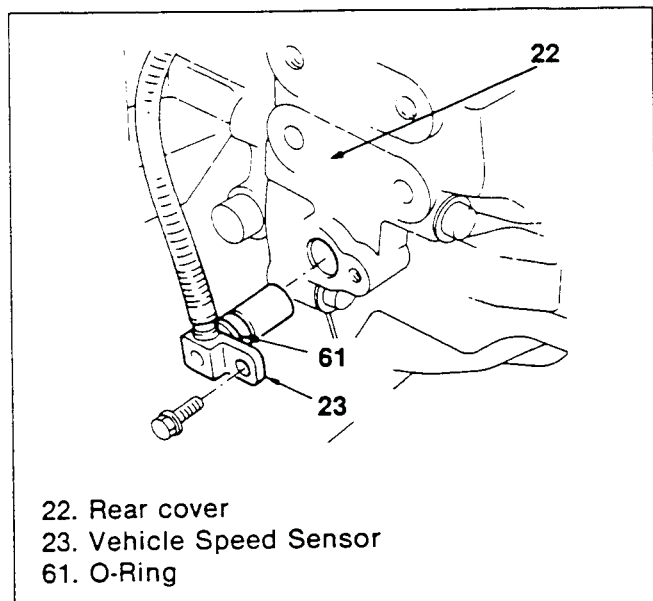

Figure 252. Vehicle Speed Sensor Installation
8. Apply Vaseline to the new O-ring then attach to the vehicle speed sensor (figure 252).